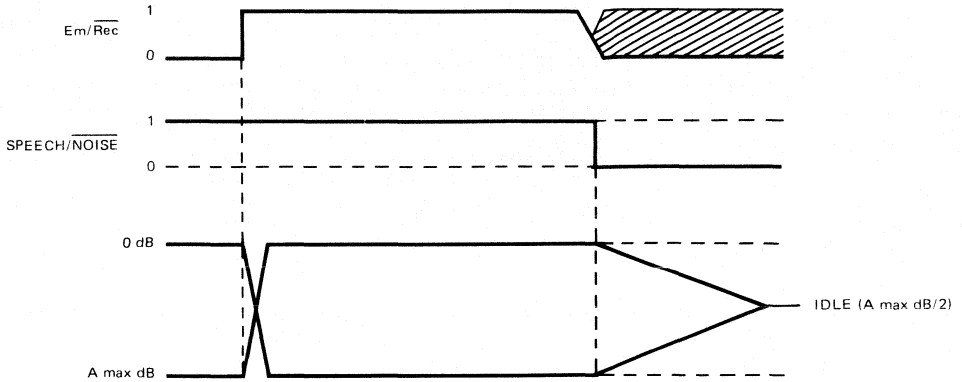

FIGURE 2
- When neither party is talking both attenuators are set to a medium attenuation. Thus each mode is in idle mode. The time constant of the switch from active mode to idle mode must be long enough to prevent from switching to idle mode between two words (see fig. 2). This time constant is fixed by an external RC.